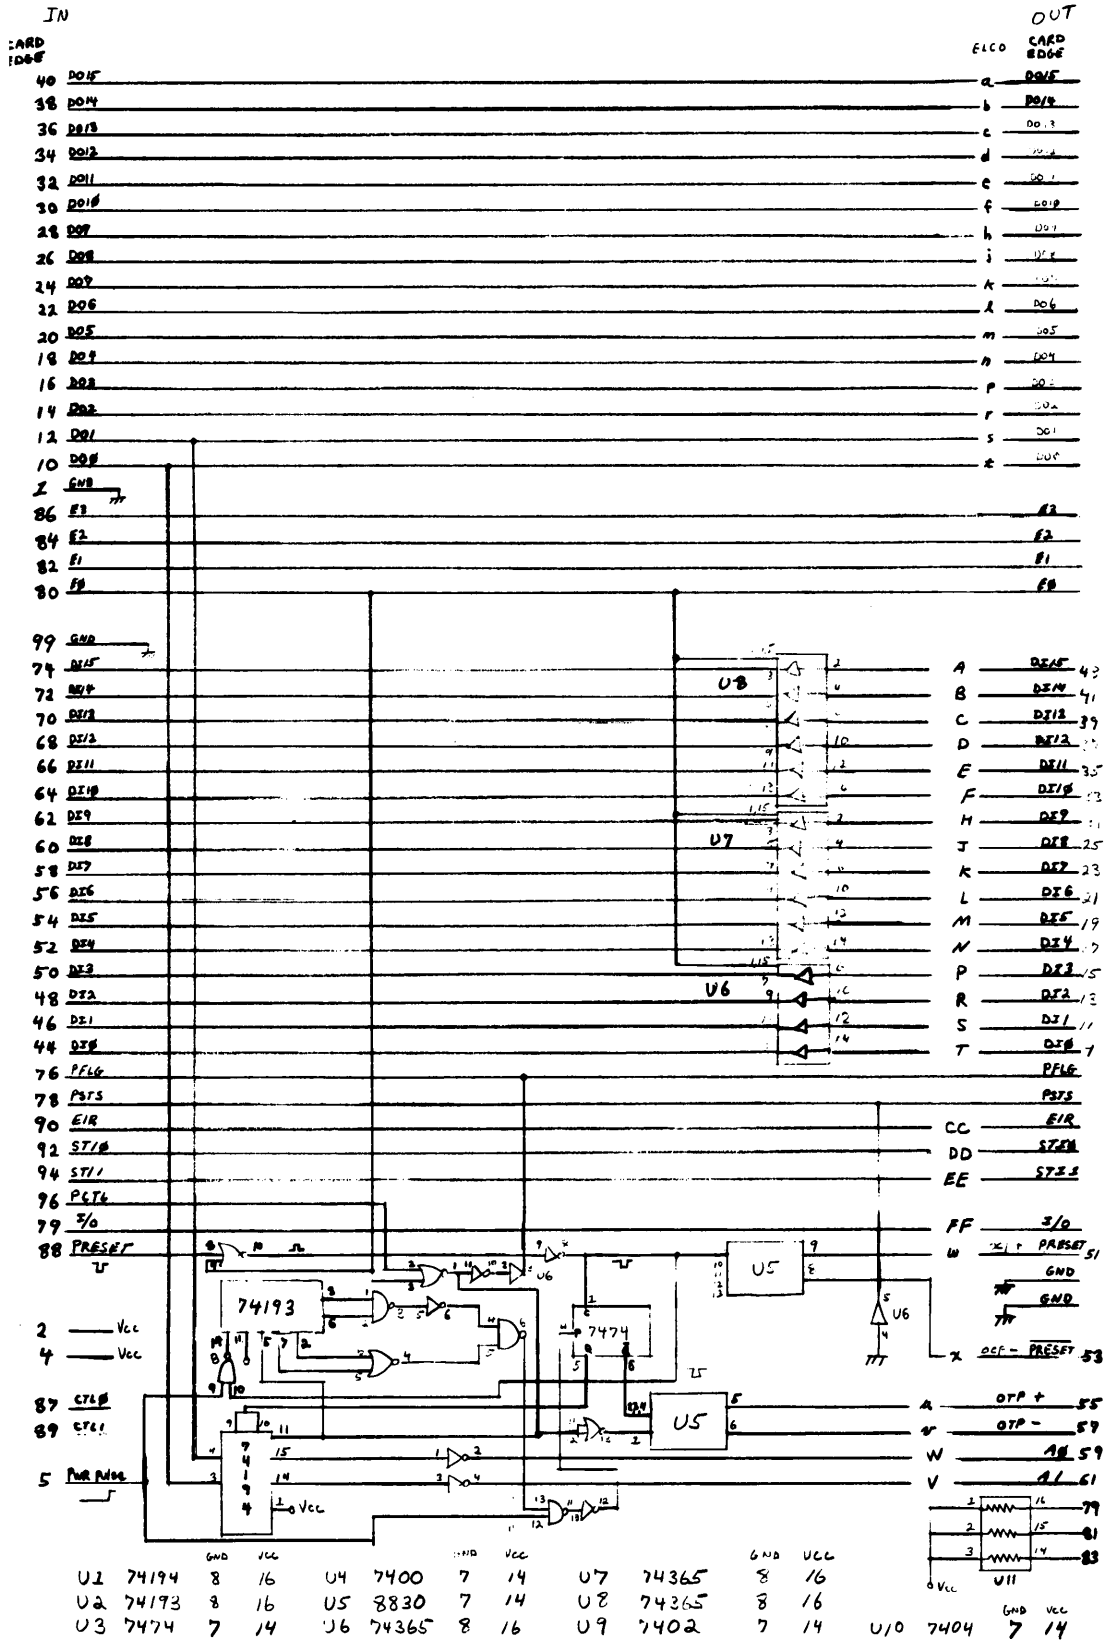

Figure 5
The schematic diagram for the ULO deocde circuit is shown in Figure 5. Table 2 contains the parts list. The data in (DI) lines are buffered by Tri-State enable buffers U8, U7 and U6. The "DO" line bits 0 and 1 are latched by U1 and inverted by U10 to provide the address to the ULO system. The words sent to the ULO are counted by the binary counter U2. Control of the address latch is done by flip-flop U3. This flip-flop allows either clocking of the latch or counting of the words. Operation of this system is described later. The power-up pulse is used to zero the counter and preset the flip-flop. The PCTL and PRESET lines from the GPIO are buffered by line drivers U5 to reduce any noise related problems in the line between the interface and the ULO. Resistor bank U11 provides pull-ups for the hard wired part of the address line. PFLG is generated by the PCTL pulse for handshaking with the computer.